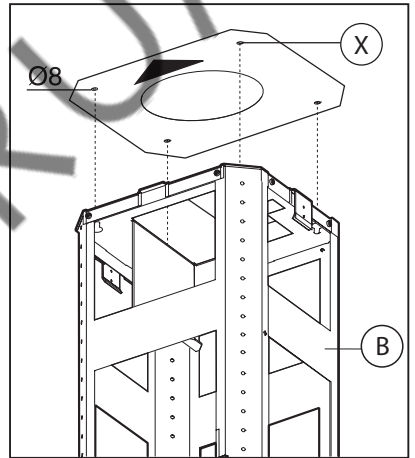

Fig.3
- Position hole template on the ceiling paying attention that the arrow is positioned on the same side as the appliance controls (Fig.3). Make 4, Ø8 holes in the ceiling and drive in 3 screws without completely tightening them. Pay attention not to insert the screw into the hole marked with an **X** on the hole template (the screws and expansion plugs must be suitable for the type of wall).